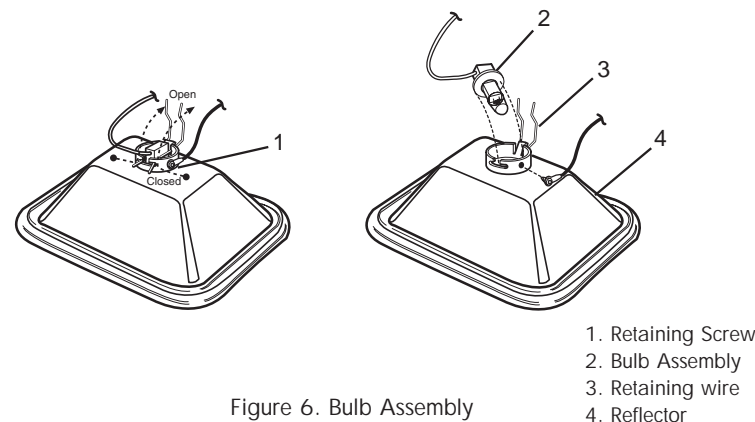

Figure 6. Bulb Assembly
5. Carefully lift the reflector and bulb assembly out of the housing. See Figure 6.